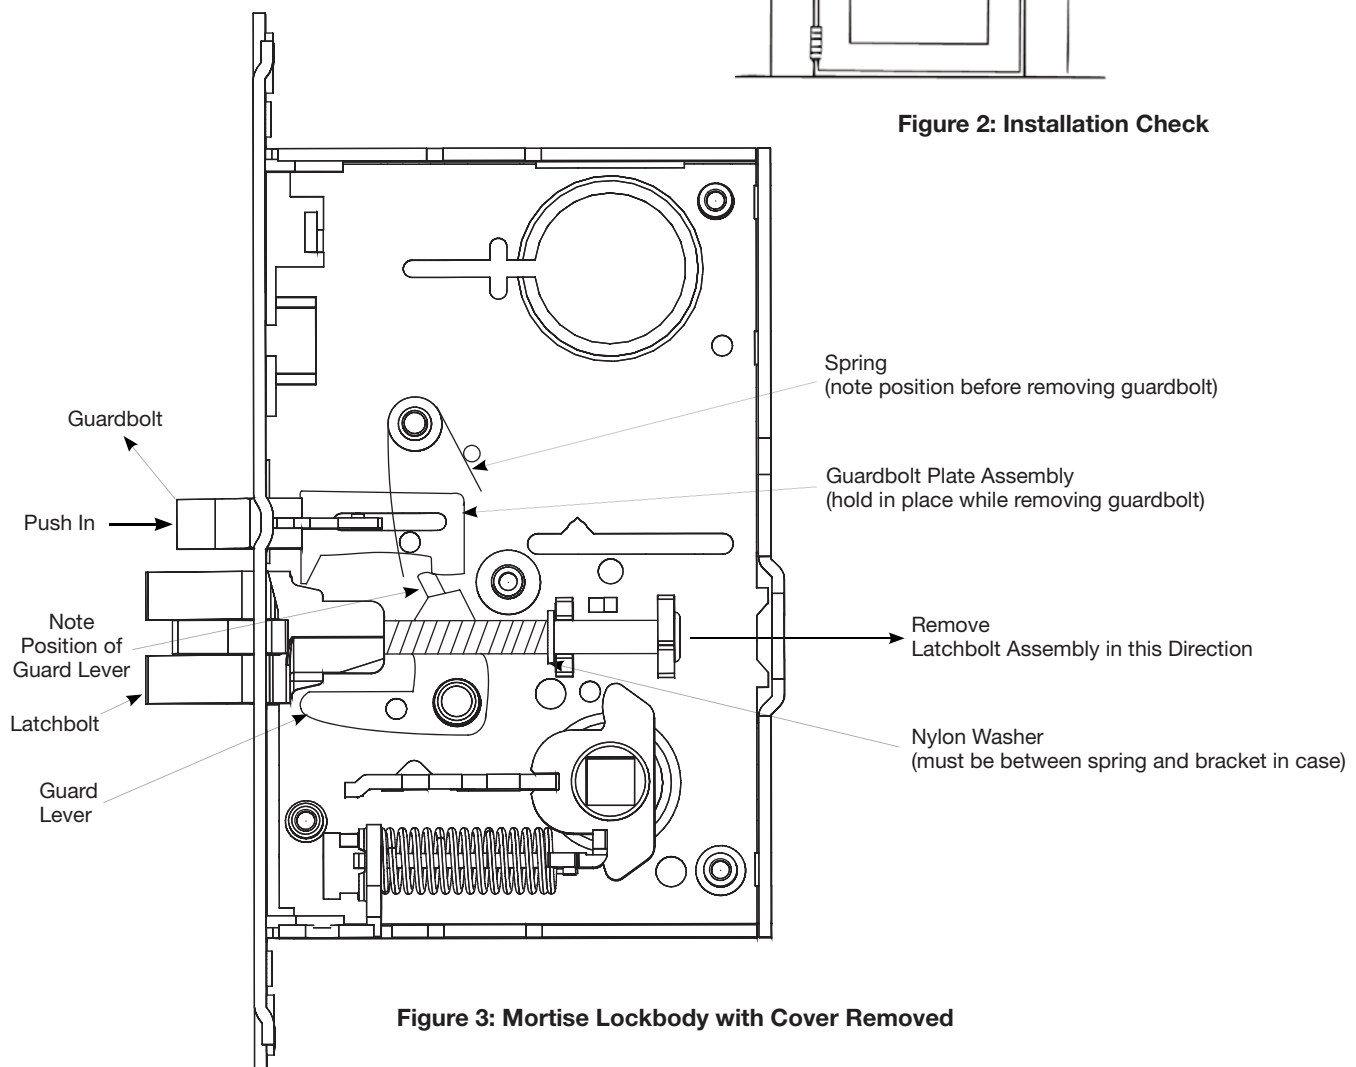

Figure 3: Mortise Lockbody with Cover Removed
1. To change lock handing, remove screws on lockbody, open cover and remove flip/latchbolt and guardbolt (see Figure 3).